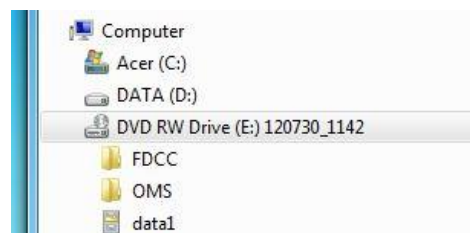

Figure C-1: CD Drive File Directory
6. Select **Explore**. The CD File Directory will appear (Figure C-1).